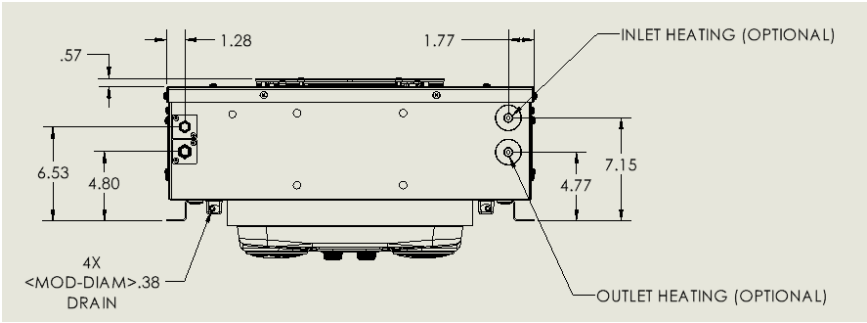

Figure 1 Rear view 47-7052-1190/2190
4. Install heating hoses to unit using connections on unit. See Figure 1.